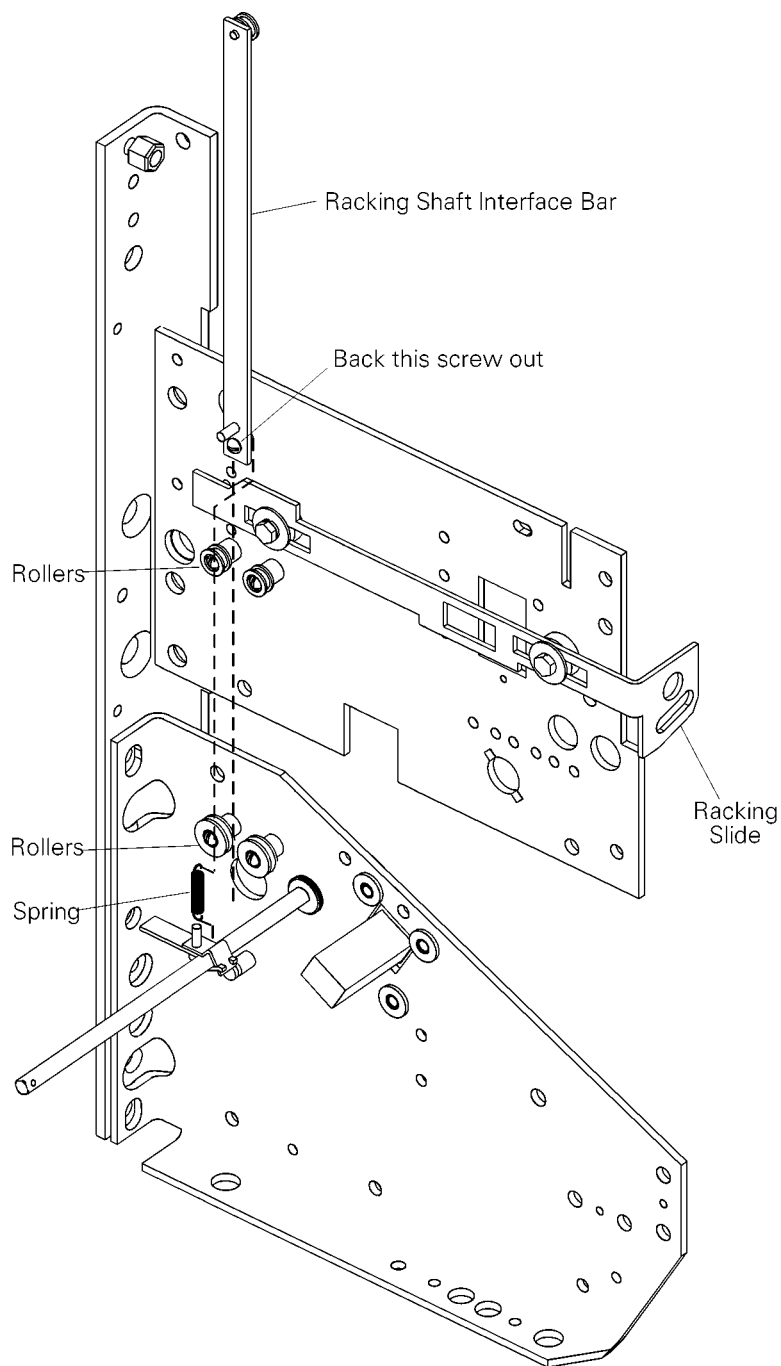

Figure 5-9. Disconnecting the racking shaft interface bar (right side view).
10. Disconnect the spring from the racking shaft interface bar. Back off the screw at the bottom end of the bar, then slide the bar up through the two sets of rollers to remove it, as illustrated in Figure 5-9.
8. Slide the racking shaft interface bar through the two sets of rollers on the breaker side plate, as illustrated in Figure 5-9, and reconnect the spring onto the pin on the bar. The roller on the upper end of the bar should rest on the cam end of the trip bar. Tighten the screw previously loosened.